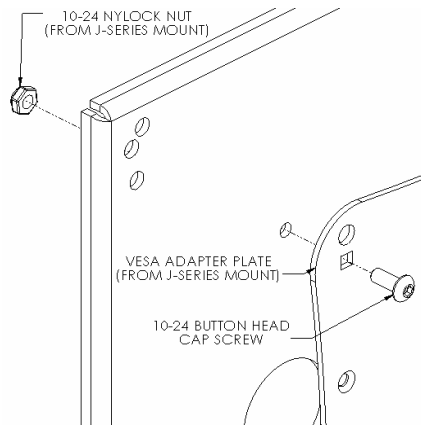
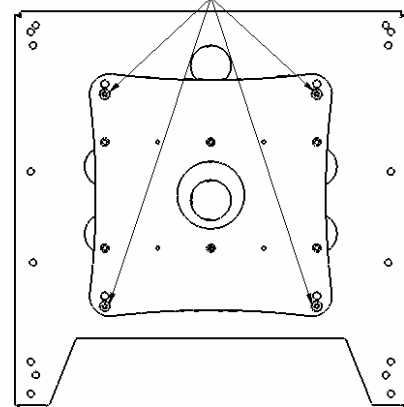

Figure 4
Figure 5
3. **J-Series VESA Interface Installation:** Using the 10-24 button head cap screws along with the 10-24 Nylock nuts (provided with J-Series mount), attach VESA interface from J-Series mount to MSB bracket (see Figure 4 & Figure 5).